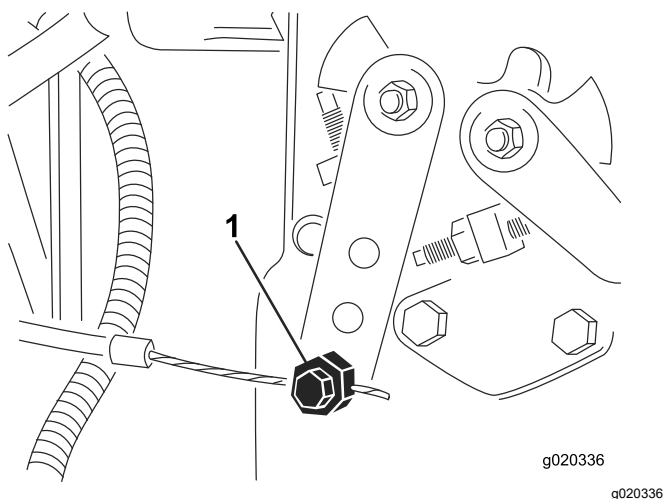

Figure 75
3. Loosen the throttle cable connector on the injection pump lever arm (Figure 75).